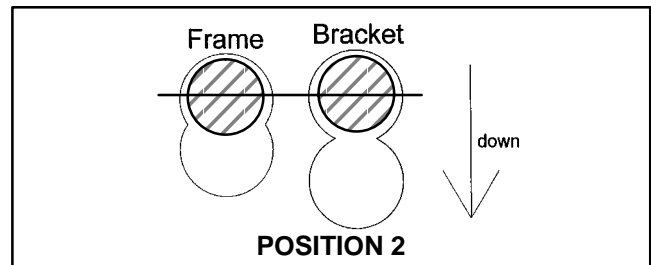

Figure 28
**Position 2:** The **standard position** is used for most conditions (Fig. 28).